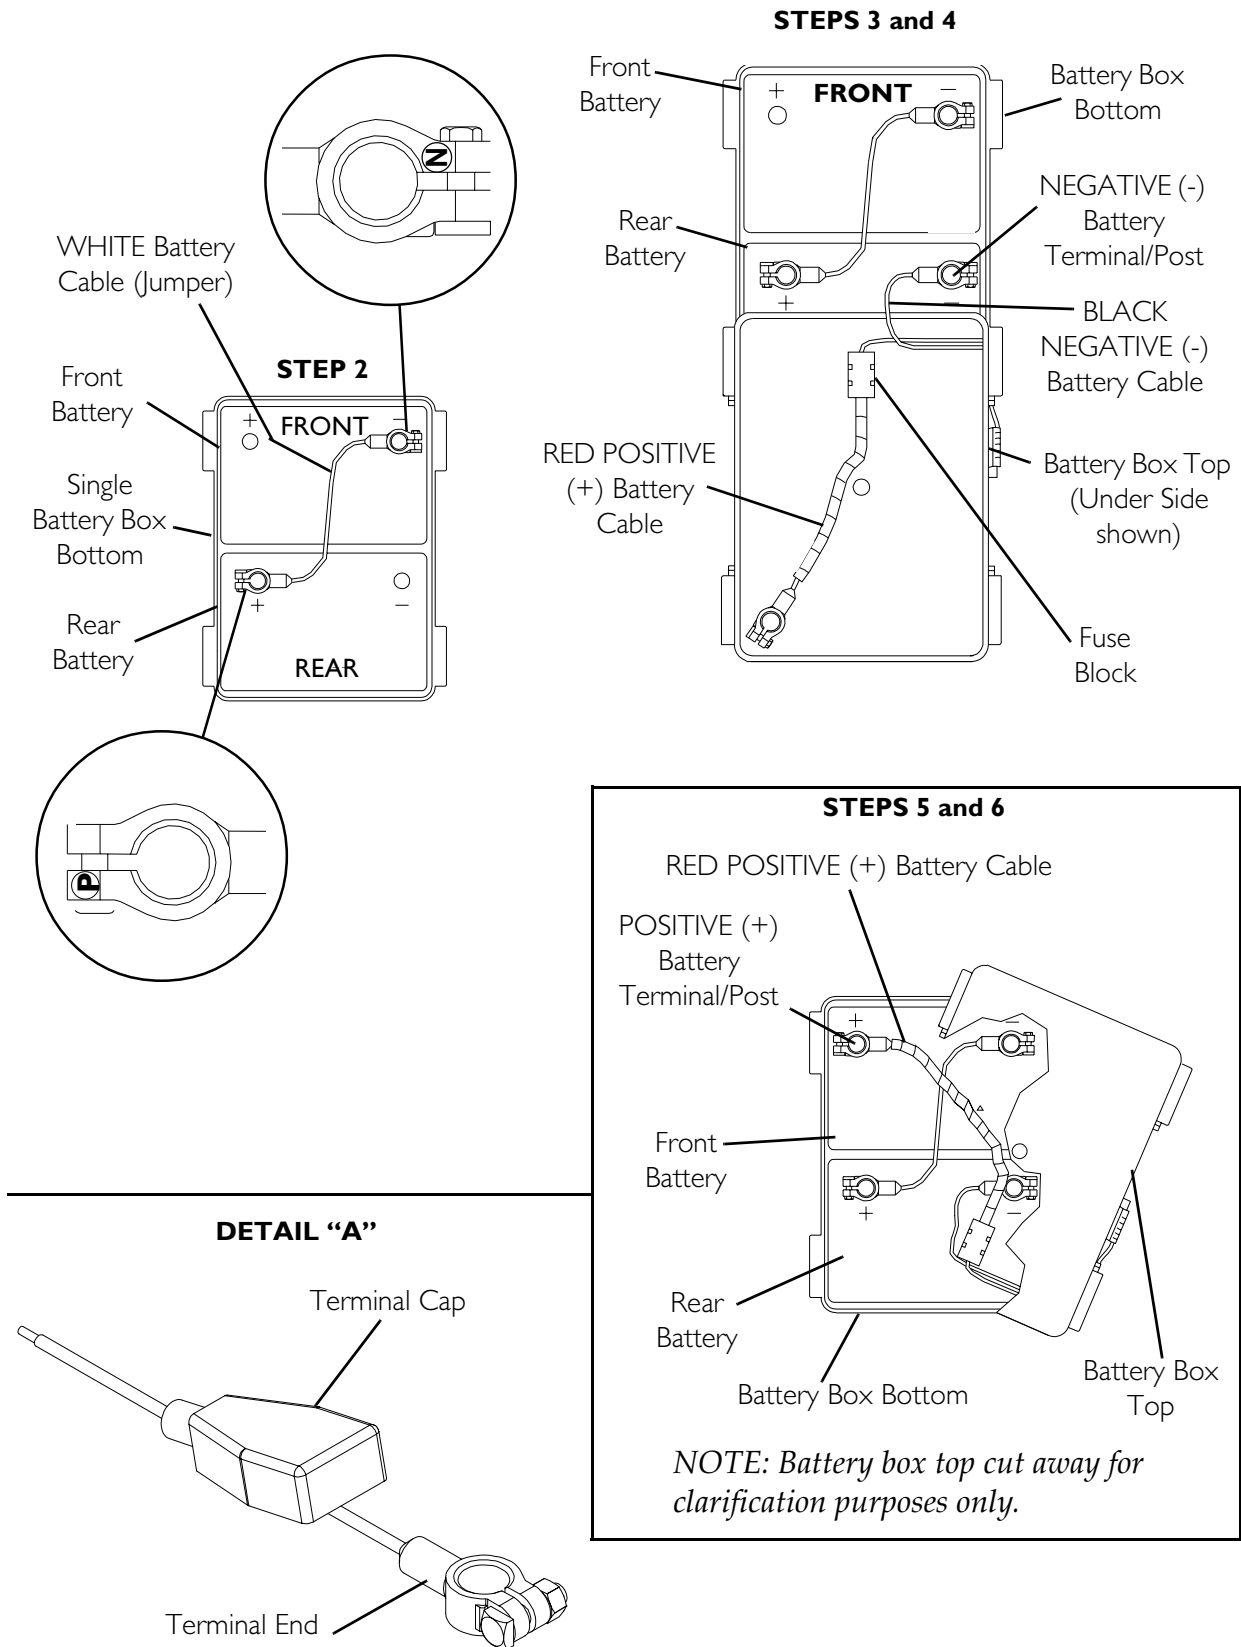

FIGURE 10.3 Disconnecting/Connecting Battery Cables - 22NF Batteries in Single Battery Box
NOTE: For this procedure, refer to FIGURE 10.3 on page 96.
1. Remove battery terminal cap(s) from battery terminal(s) ends. Refer to Detail A" in FIGURE 10.3.
1. Remove battery terminal cap(s) from battery terminal(s) ends. Refer to Detail "A" in FIGURE 10.3.